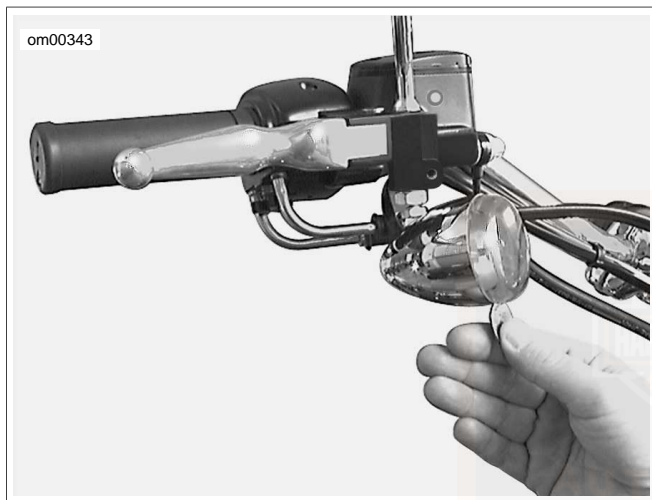

Figure 71. Lens Cap Notch
1. See Figure 71. To access the front or rear turn signal bulbs for replacement, locate a notch on the turn signal lens cap.